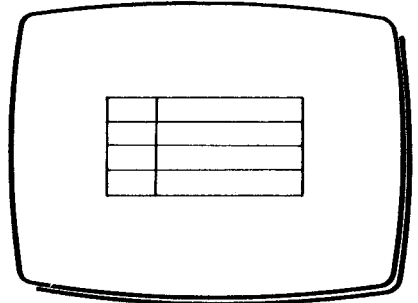

Fig 2
- 4 **Press T** to confirm the selected unit. The unit is displayed at its original size and rotation (Fig 2). All other Work Page entries have been erased, hence the need to file the original composite drawing.